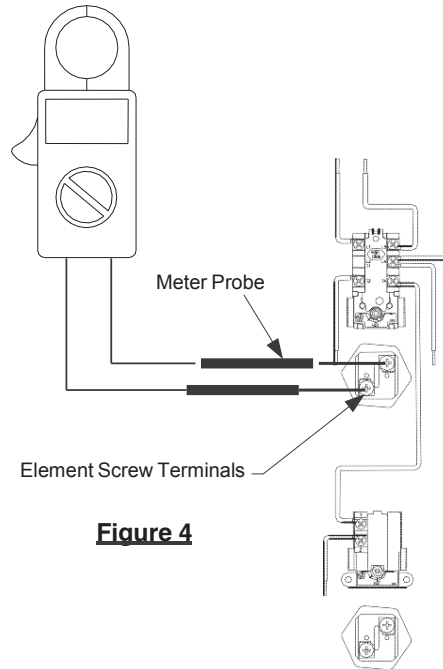

Figure 4
Step 5. Touch probes of multi-meter to screw terminals of heating element(s) (see Figure 4).